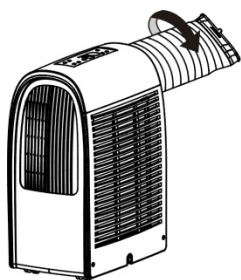

Fig.01
1. For heating function: remove the exhaust hose from the unit, as shown in "Fig.01".